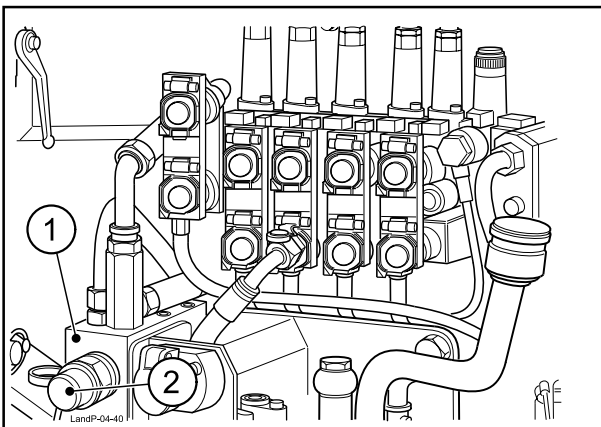

Fig.5-31b
To brake the trailer along with the tractor, the flexible tube of the trailer brakes must be connected to the fitting at the rear of the tractor (1 - Fig. 5-31b). Always make sure that the two parts are clean before you connect them, to ensure that the various components operate in a perfect way.
**WARNING.** *Trailer brake approved for ITALY. When the tractor is operating, it is absolutely essential to engage the parking brake when either connecting or detaching the tube that links the tube of the trailer braking system to the quick coupling (2 - Fig. 5-31b).*